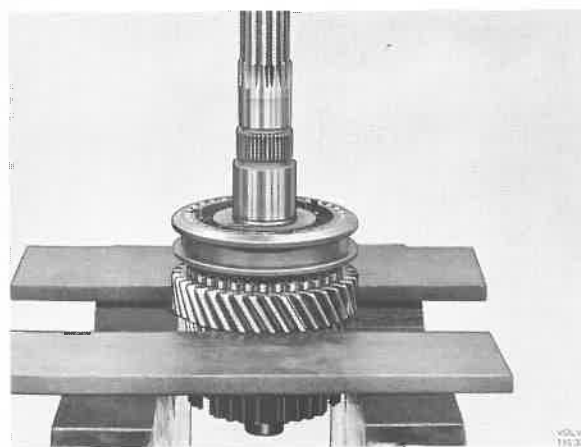

Fig. 43-70. Removing hub and gear
2. Remove the lock ring for 1st-2nd synchronizing hub, Fig. 43-69. Place the shaft in a press with a counterhold under 2nd gear, Fig. 43-70. Press off the synchronizing hub and gear. Remove the engaging sleeve and the interlock units. Remove the needle bearing.